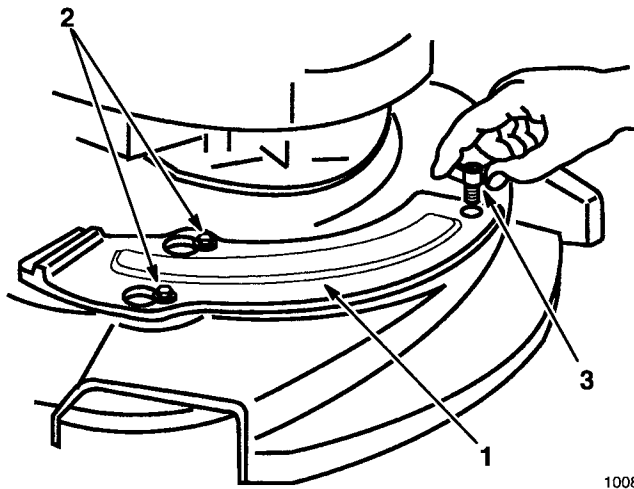

Figure 45
- Two shoulder bolts on the housing protrude through slotted holes in the mulch plate and do not have to be loosened or removed (Fig. 45). Mulch plate moves over the shoulder bolt heads.
- Secure with wing screw (Fig. 45).